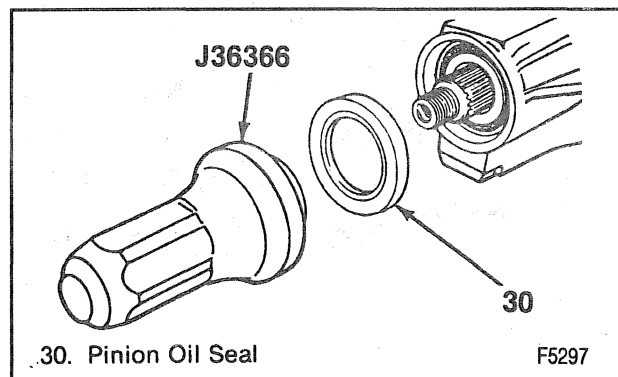

Figure 19—Installing the Pinion Seal
Install or Connect (Figures 19 and 20)
- B. Position the oil seal in the bore. Then place J 22804-1 over the oil seal and flat against the seal flange (figure 19).